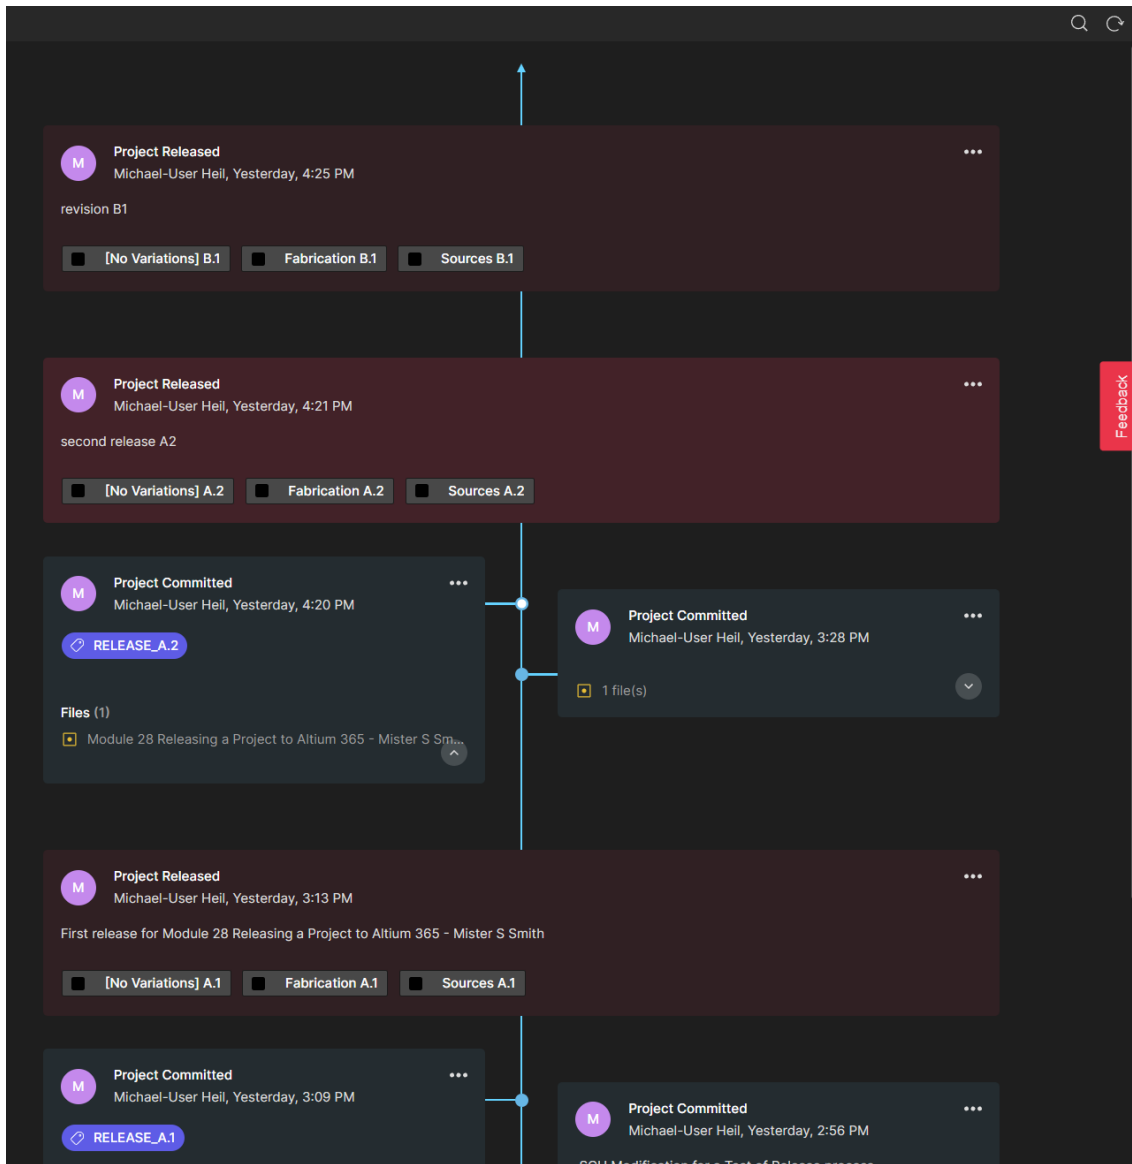

Figure 12. Example for a Project History
40. The *History* shows you the different Commit and Release steps for your Project. It also shows you if a clone from the project was created. You can see an example history at Figure 12.